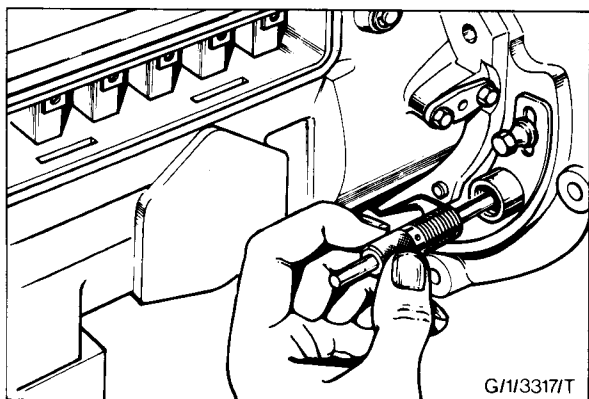

Fig. 21 - Fitting the Timing Tool to the Pump (Dover)
1. Remove the timing plug from the timing quadrant on the back of the front mounting flange (Fig. 21).